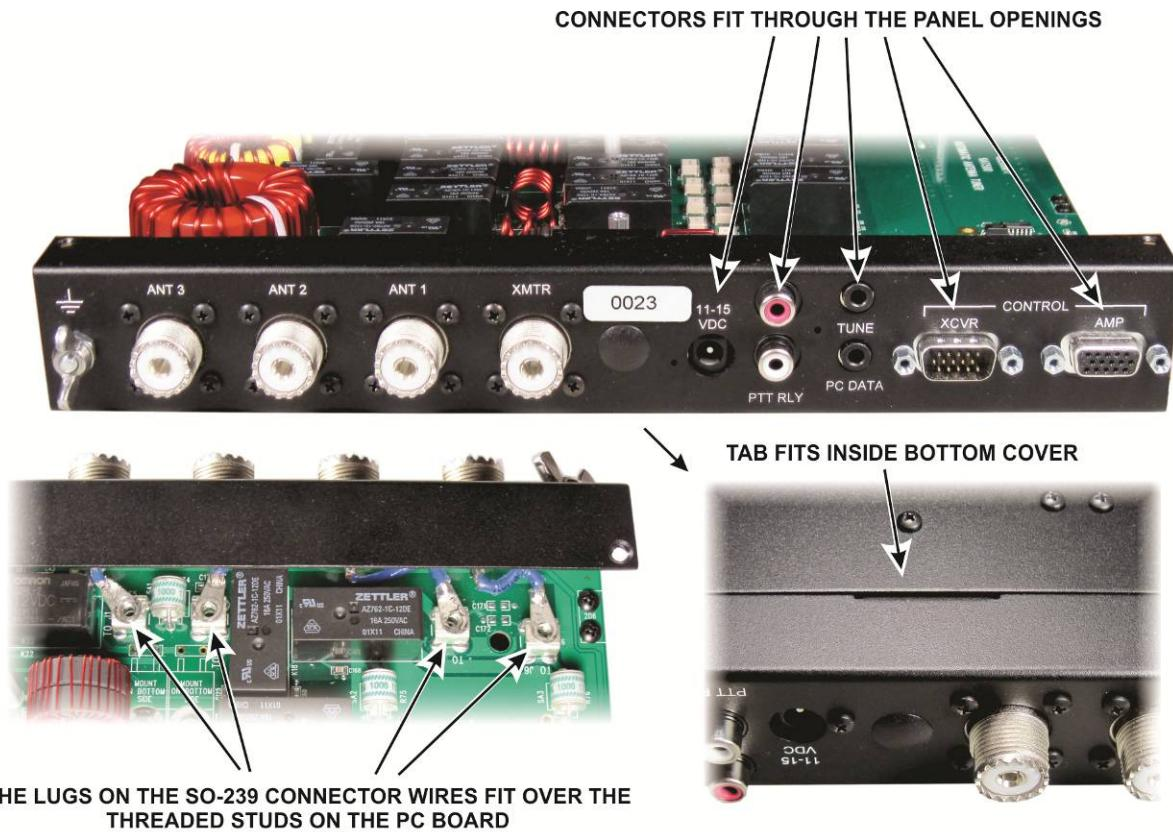

Figure 27. Positioning the Rear Cover on the PC Board and Bottom Cover Assembly.
- Position the rear panel on the pc board/bottom cover assembly you assembled earlier as shown in Figure 27. Be sure the tab at the center of the rear panel fits inside the bottom cover as shown.